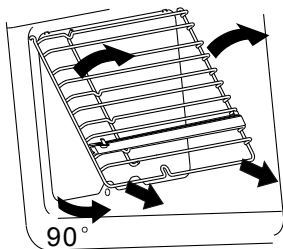

Figure 5
- Then, lift up the rack to an angle approximately 90 °, and slowly pull the rack out from the oven. (Figure 5)